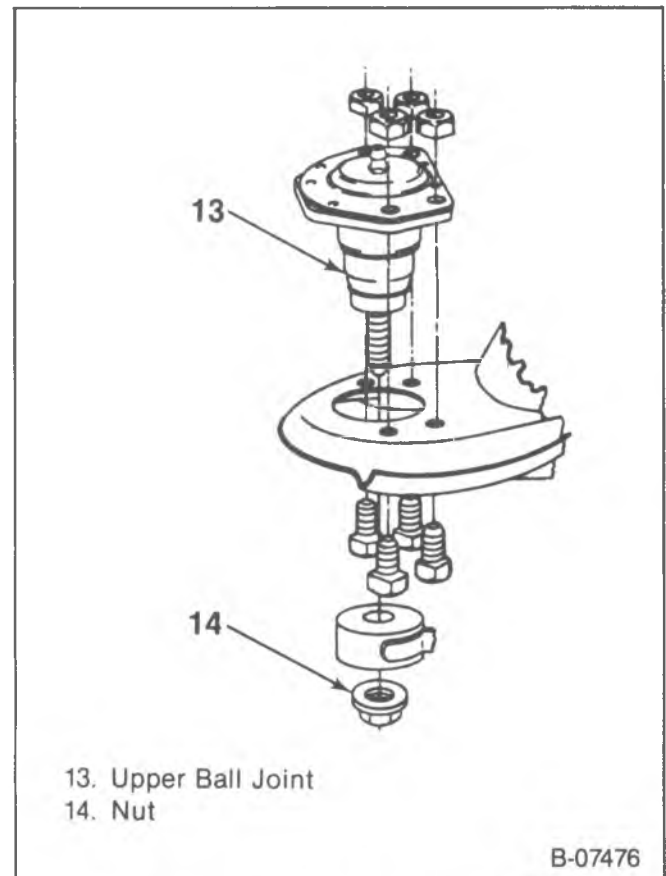

Figure 21—Installing the Upper Ball Joint
1. Upper ball joint (13) into the upper control arm (28).
- Position into the upper control arm and install four attaching bolts and nuts (A) (figure 21).